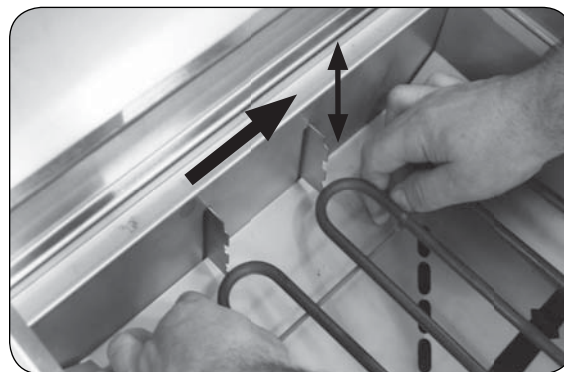

Fig. 17-1 Adjust cooking element
2. Grasp the cool cooking element and apply pressure towards the right of the grill. Once it clears the tab, raise or lower it to the desired height. (See Fig. 17-1.) Be sure it securely rests in position.